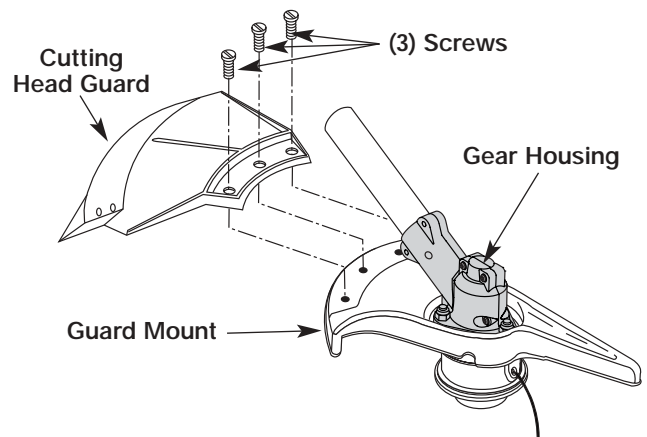

FIGURE 7
Remove the cutting head guard from the guard mount by removing the three (3) screws with a flat blade screwdriver, Figure 7. Store parts for future use.
Install the cutting head guard on the guard mount by inserting the three (3) screws into the guard mount. Tighten securely with a flat blade screwdriver, Figure 7.